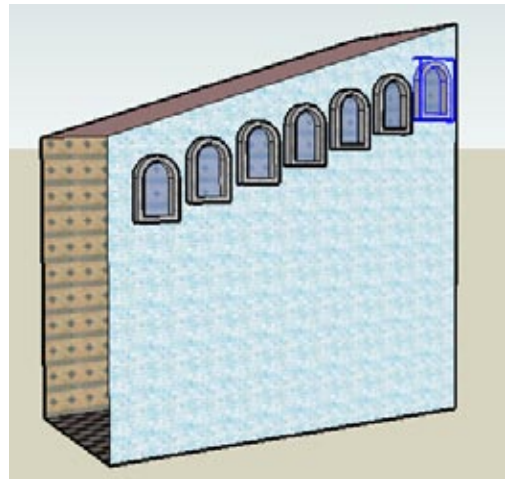

Figure 1-39
- Enter $6x$, or whatever number works for you, to get your internal array of windows (Figure 1-39). All of the copies now appear between the first and last windows.